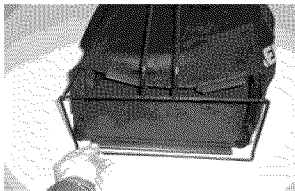

Figure 11 - Insert Into Wire Frame
1. Insert wire frame into cloth bag (see figure 11). Make sure the wire frame handle is on top and the bag orientation shows the Remington logo upright.